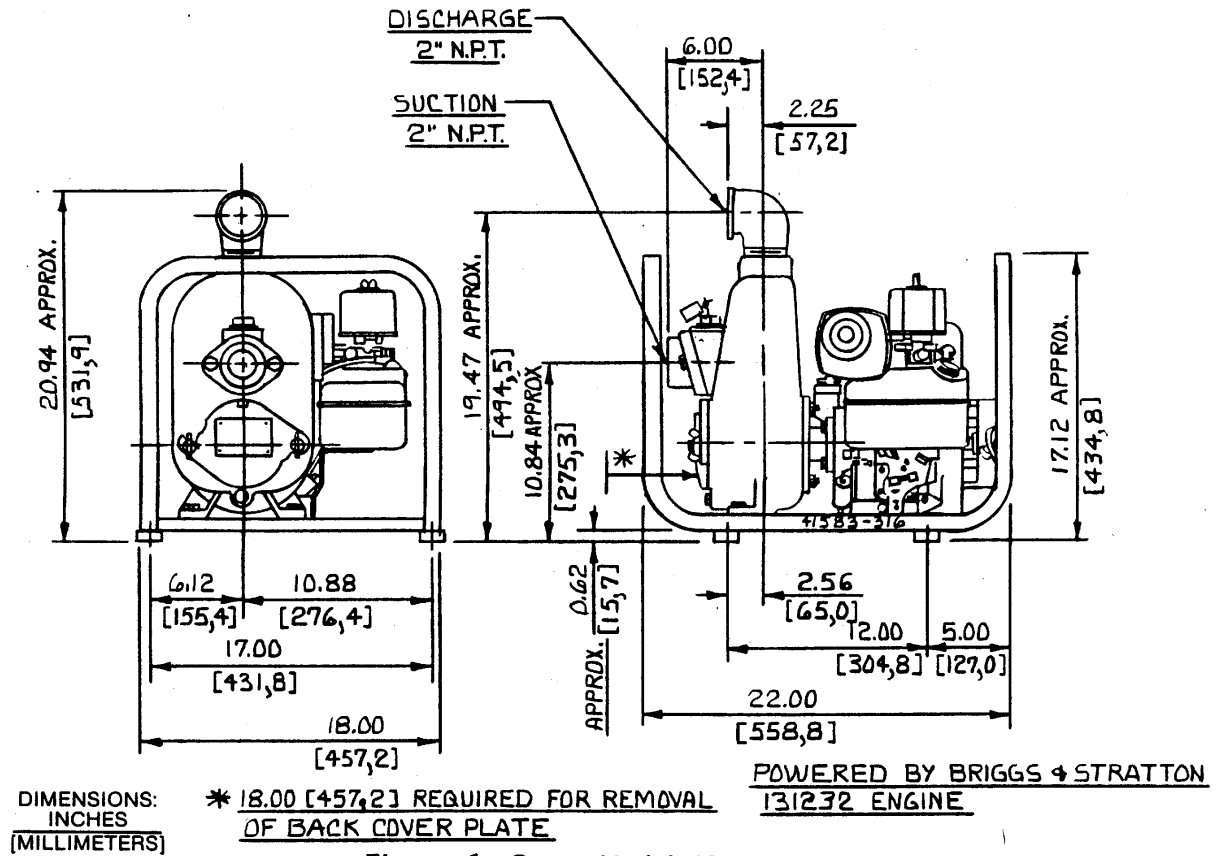

Figure 1. Pump Model 12D-13
- f. The rubber foot mounting kit and discharge elbow (see the Parts Lists, pages E-3 and E-5) were shipped loose with the pump. Refer to Figure 1, page E-2 and install the parts as shown.